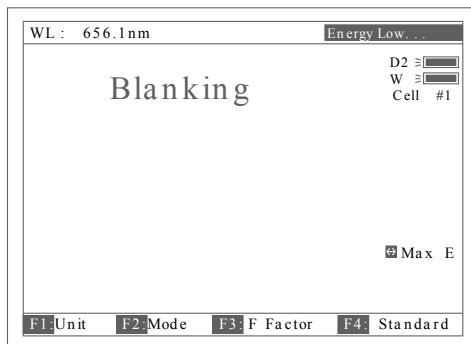
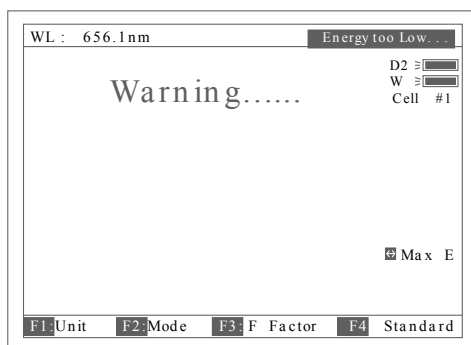

Fig 8
Fig 9
Note: 1. If the reference solution is too thick, “Energy Low...” will appear following the “Blanking...” on the screen (Fig 8). If “Energy too Low...” appears following the “Blanking...”, the test will be paused and “Warning...” will appear on the screen. (Fig 9).
2. If no automatic changer installed “cell #1” and “Max E” will disappear in Fig 8.